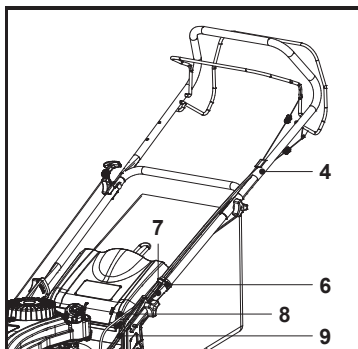

Fig. 3
4. Repeat the above steps on the other side of upper handle bar (4).
5. Make sure that the self-propelling wire (8) and the brake wire (9) run on the upper side of the handle bars (4, 7).
6. Attach the wires (8, 9) with the wire clip (6) on the left-hand side of the lower handle bar (7) (when viewed from operator's position) (Fig. 3).